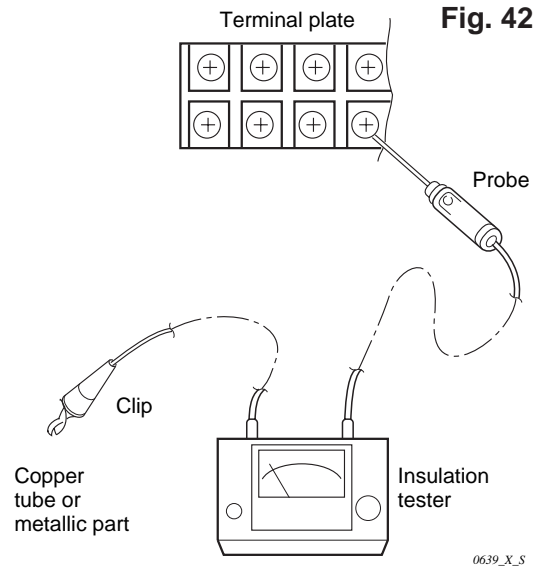
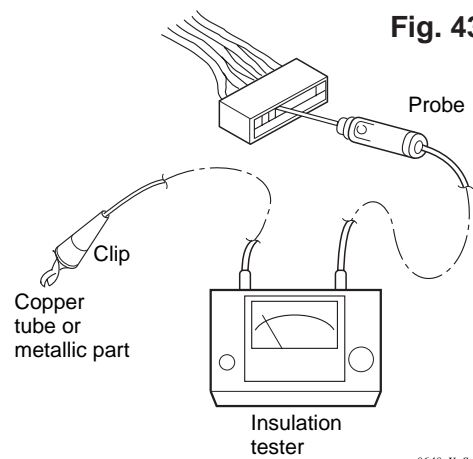

Fig. 43
Fig. 44
Clamp an aluminum plate fin or copper tube with the lead clip of the insulation resistance tester and measure the resistance by placing a probe on the terminal plate (Fig. 43)
③ Outdoor Unit
Measure the resistance by placing a probe on the terminal plate in the same manner as explained above ②. (Fig. 43)
④ Measurement of Insulation Resistance for Electrical parts
- Disconnect the connector of the desired electric part from terminal plate, P.C.B. Ass'y, etc. (Fig. 44)